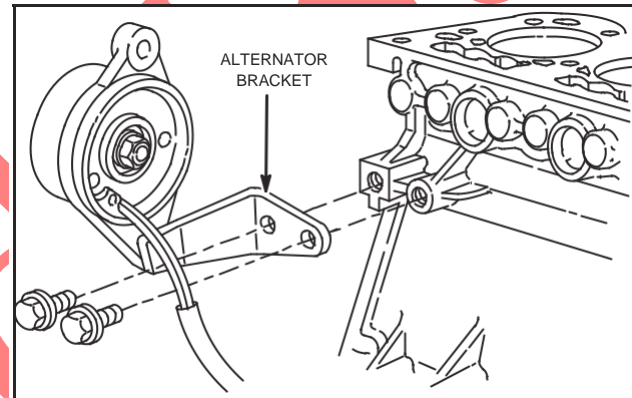

Fig. 2 – Removing Alternator
5. Remove alternator bracket and alternator, Fig. 2.